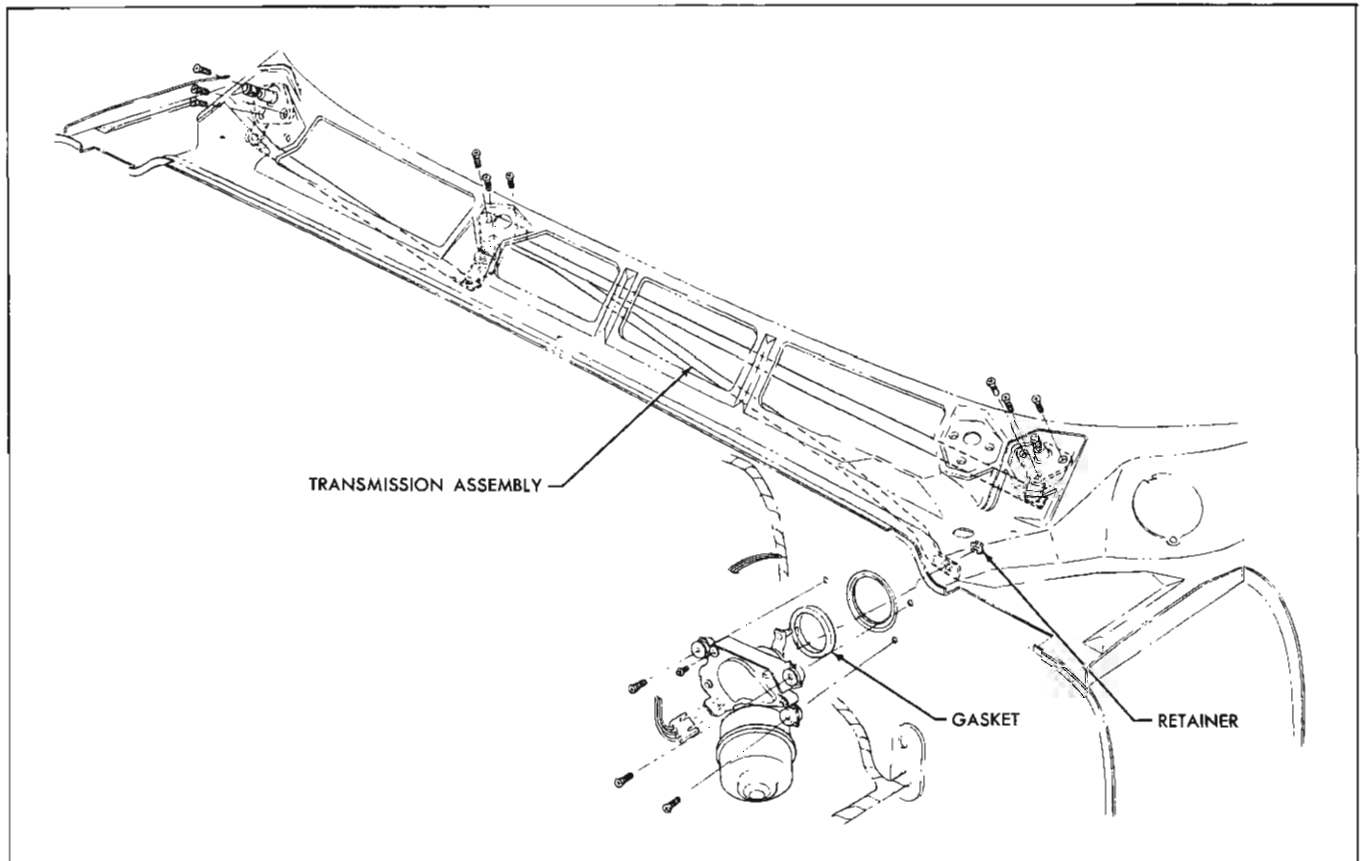

Fig. 11-100 Wiper Installation
### WIPER TRANSMISSIONS AND LINKAGE—REPLACE (FIG. 11-100)
1. Make sure gasket is on motor (Fig. 11-100).